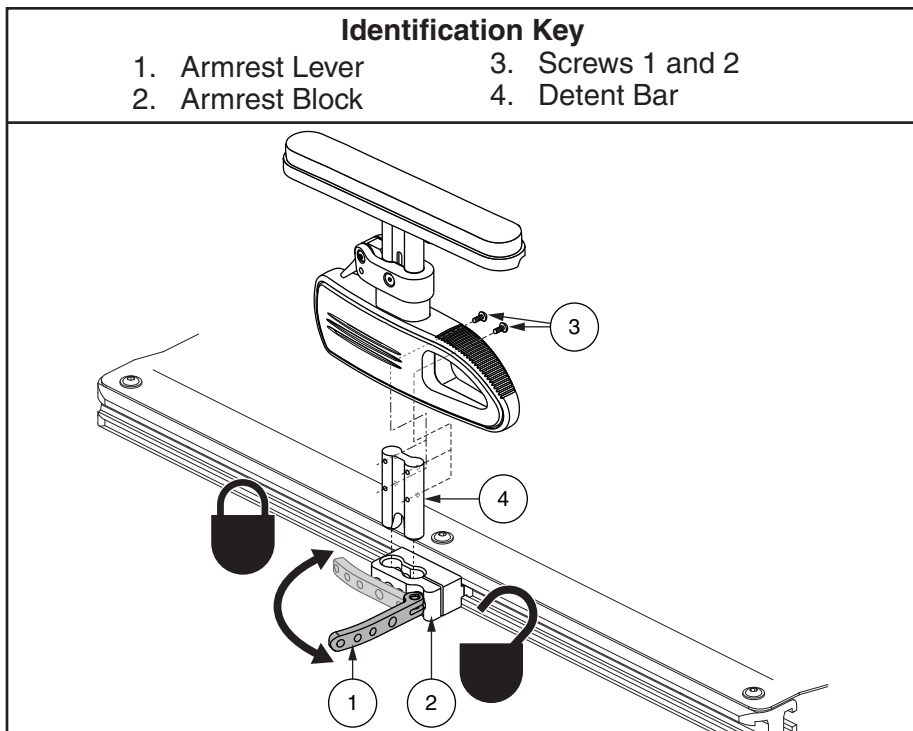

Figure 16. Pediatric Single Post Quick Height Adjustment Drop-in Adjustment
1. Remove screws 1 and 2 from the detent bar. **See figure 16.**